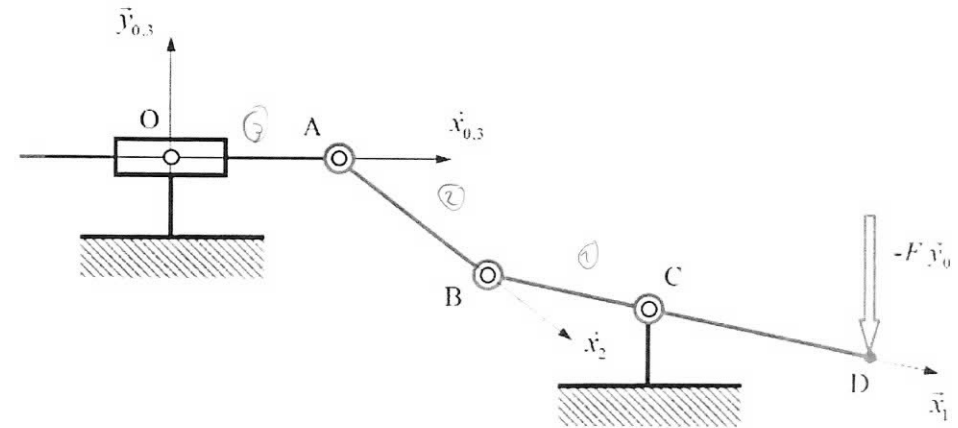

Figure 4
3. A vertical force  $-F \vec{y}_0$  of amplitude  $F=200$  N is applied at point D (Figure 4). The system is in equilibrium for the angles  $\theta_{01} = -10^\circ$  and  $\theta_{02} = -40^\circ$  and the lengths are  $L_{AB} = 50$  mm,  $L_{BC} = 46$  mm and  $L_{CD} = 50$  mm. All the weights are neglected.